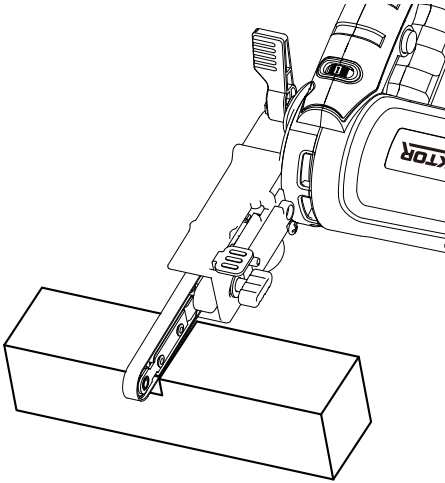

Figure 7-1
- 4) Hold the tool securely with both hands and maintain a balanced posture. Press the on/off switch and allow the motor to reach full speed. Keep the tool parallel to the workpiece and gently bring the belt into contact with the surface. Do not apply excessive pressure. Use the correct tool for the task, as the proper tool performs the job more efficiently and safely at the speed for which it is designed. (See Fig. 7-1 & 7-2)